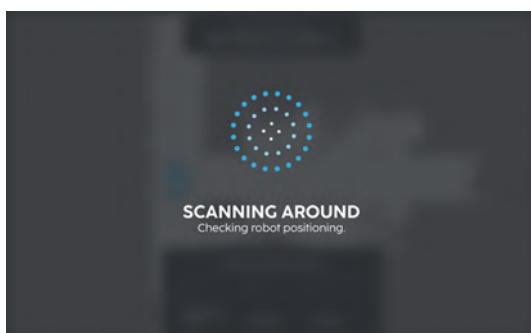

FIGURE 6-4
2. Wait for the machine to scan its surroundings and confirm the position (**Fig. 6-4**).